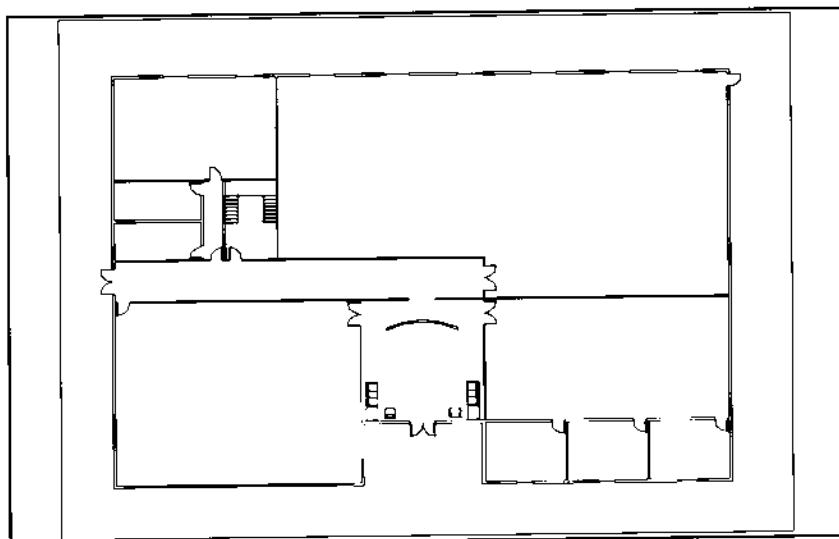

Figure 4.
1. Before proceeding with this exercise, prepare the drawing so it appears as in Figure 4.